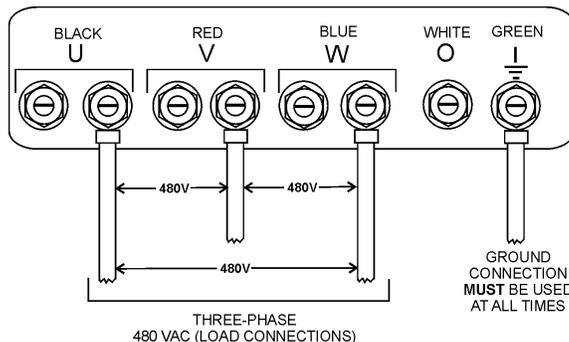

Figure 25. UVW Terminal Lugs 1Ø-480V Connections
2. Connect the load wires to the UVW terminals as shown in Figure 25.